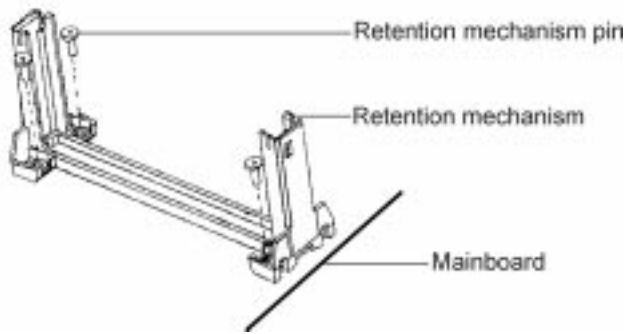

Figure 2-4 The retention mechanism for Slot1
- CPU Slot 1 retention mechanism and four retention mechanism pins (Figure 2-4)
2. Insert the retention mechanism pins into the four holes at the base of the retention mechanism (Figure 2-4), pushing down until they click into place.